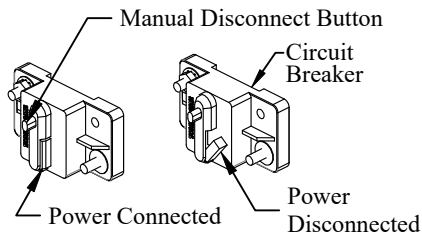

Figure 2: Circuit Breaker
2. Disconnect the power cable from the positive side of the battery or manually **Trip** the circuit breaker (Figure 2).